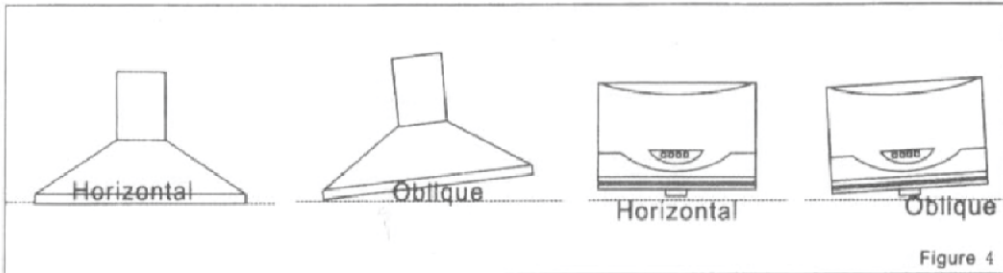

Figure 4
(1) The distance from the exit of the smoke pipe to the organism should not be too long. Make the radius of turn as large as possible. Make few curves, or the effect will not be so good.
(2) The exhaust duct should reach outdoor of the common smoke pipe, and the connector must be narrow. Please don't discharge the waste gas into hot flue.
4. Keeping the organism level (shown in figure 4)